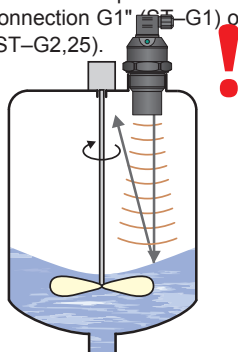

Fig. 11: Strongly stirred surface
- p) False surface reflections of the ultrasonic signal and unreliable operation of the device might result from the mixer's **rotating blades** that ripple the surface level (Fig. 11).